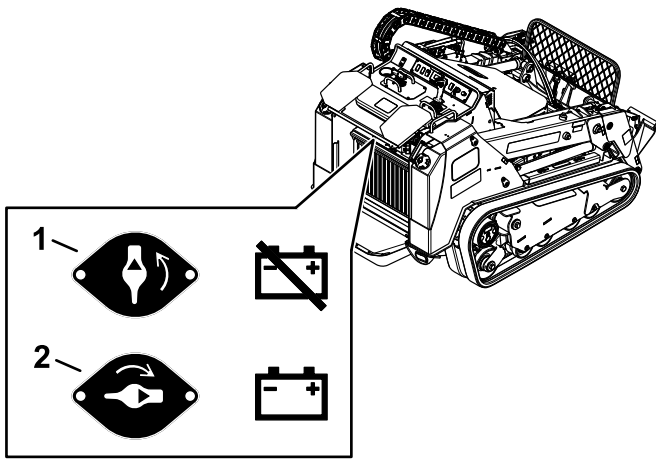

Figure 57
- To energize the machine electrically, rotate the battery-disconnect switch clockwise to the ON position (Figure 57).
- To de-energize the machine electrically, rotate the battery-disconnect switch counterclockwise to the OFF position (Figure 57).